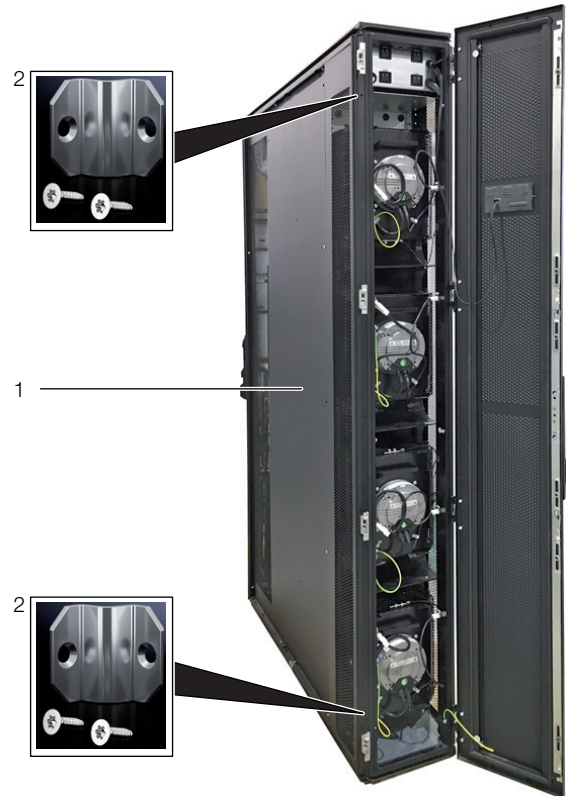

Fig. 17: LCP Rack DX – front
- Using the corresponding assembly screws, fasten two baying connectors each (fig.17, item 2) onto the attachment points provided in the mounting strips on the front and rear of the LCP DX (fig.17, item 1).